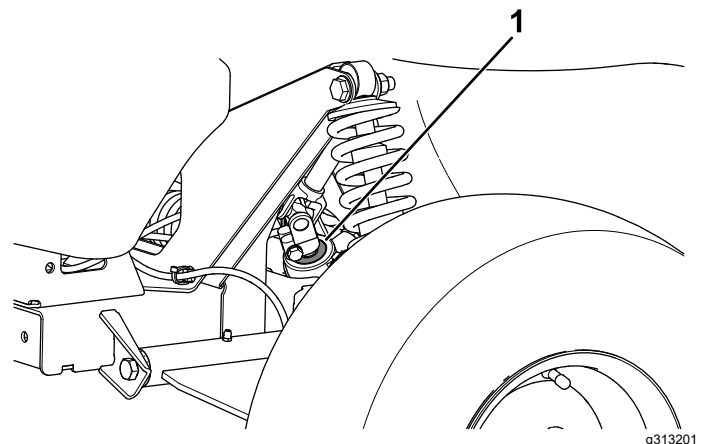

Figure 42
**Important:** Inspect the condition and security of the pinion-shaft seal (Figure 42).